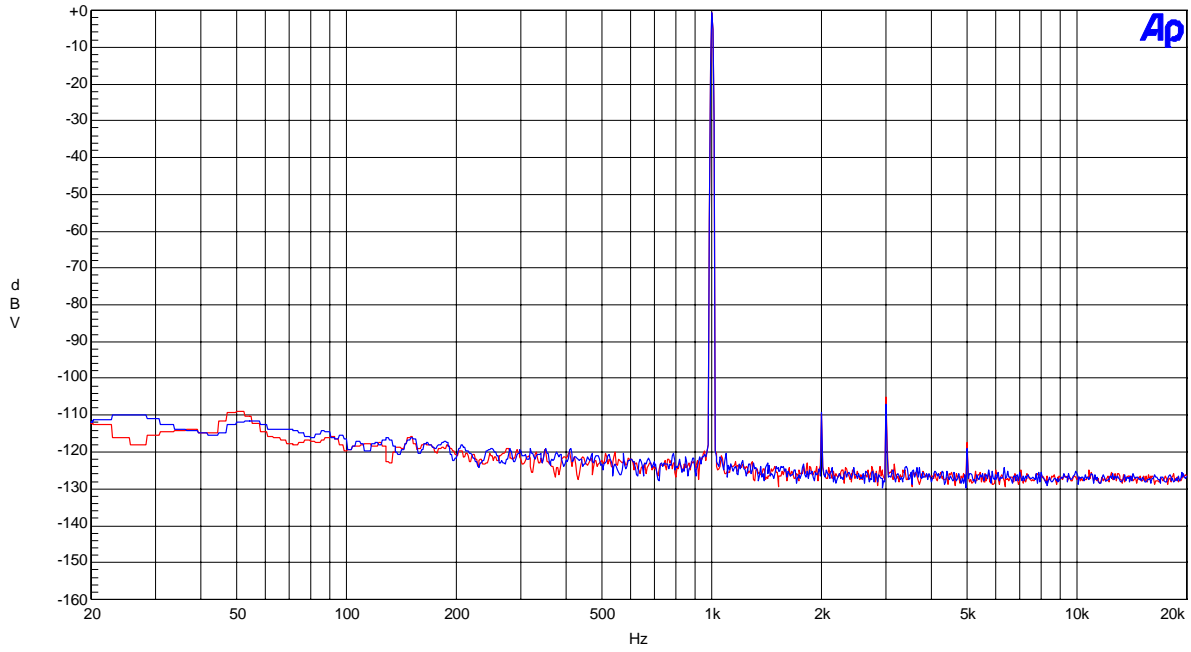

Figure1-1. FFT (fin=1kHz Input Level=0dBV)
- Figure 1-1. FFT (1kHz, 0dBV input) at 1Vrms output